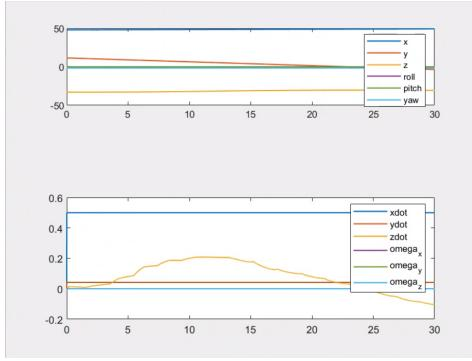

Figure 9: Position and velocities during the Minimum Altitude Vehicle task imposed 1m threshold
- **1 m:** This time the problem is the opposite. The control task is no more active at the starting instant. The UVMS starts to accomplish the *Vehicle Position* task, when the seafloor present an hill the UVMS start to follow the pattern (Figure 9). However, there are some troubles during the navigation because the "noise" of the robot, with only 1 meter of distance (and no Δ that could prevent this), could touch the soil because the sensor it is on the center of the vehicle.